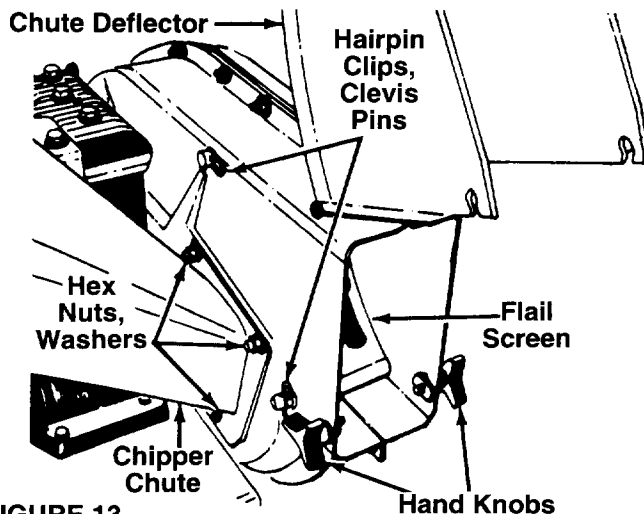

FIGURE 13.
- Remove two hairpin clips from the clevis pins which extend through the housing. Remove the clevis pins. Lift the flail screen from inside the housing. See figure 13.
NOTE: Be certain to reassemble the flail screen with the curved side down as shown in figure 13.
- Remove the chipper chute by removing three hex nuts and washers. A 1/2" wrench is required. See figure 13.